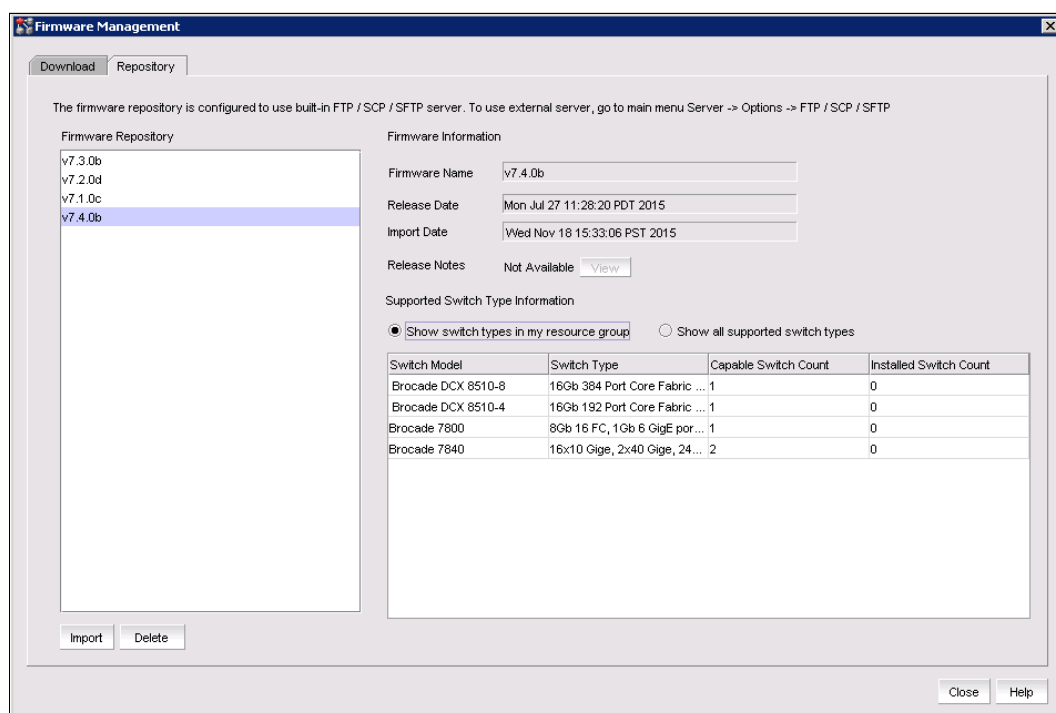

Figure 10-26 Firmware Management panel with the Repository tab selected
2. Select **Configure** → **Firmware Management** and the Firmware Management window will be displayed. Figure 10-26 shows the Firmware Management window with the Repository tab selected.